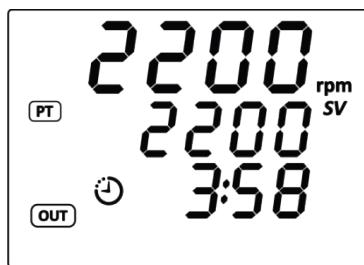

Figure 5 - Settings memorizing
- 8.3.2. Current setting will be written into the memory when the button  is pressed continuously. At that, the display will show the indicator  (Figure 5).